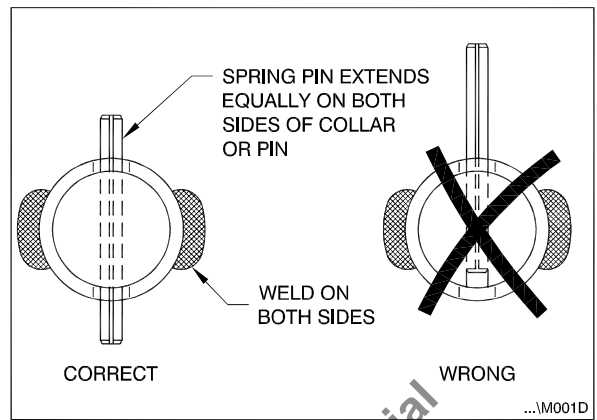

Figure 8: Spring Pins
2. Check for presence and proper seating of all spring pins on all axles, cylinders and rollers. Confirm that all welds on the spring pin collars are intact. (See "Figure 8: Spring Pins" on page 16)